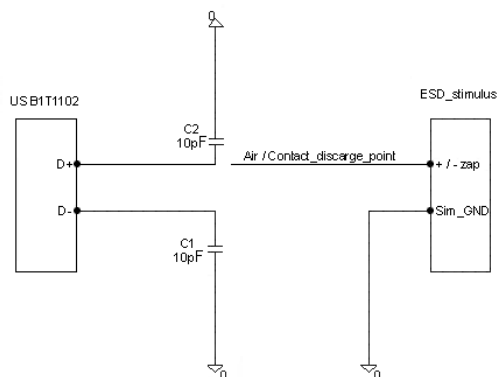

FIGURE 3. IEC 61000-4-2 ESD Test Model
The IEC 61000-4-2 standard covers ESD testing and performance of finished equipment, and as such evaluates the equipment in its entirety for ESD immunity. Fairchild Semiconductor has evaluated this device using the IEC 6100-4-2 representative system model depicted in Figure 3. Under the additional standards set forth by the IEC, this device is also compliant with IEC 60749-26 (HBM) and IEC 60749-27 (MM).